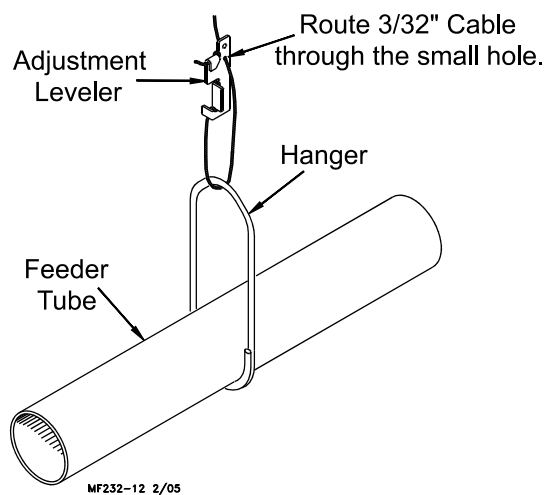

Figure 26. Adjustment Leveler and Hanger Installation.
6. Install the Hangers on the tubes on 8' (2.4 m) spacings determined by the suspension drop lines. **Figure 26** shows the proper installation of the Hanger Assembly. Make sure the outlet drop hole is down when the hangers are installed, otherwise feed will not be allowed to drop into the feeder pan.
7. Install the Adjustment Leveler within 6" (152 mm) of feeder line hanger. **Figure 26** shows the proper cable routing around the Adjustment Leveler.